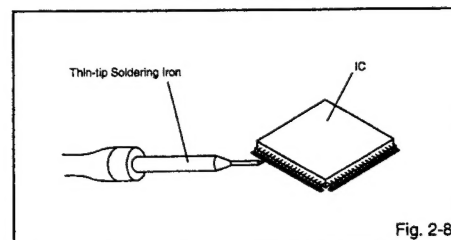

Fig. 2-8
4. When bridge-soldering between terminals and/or the soldering amount are not enough, resolder using a Thin-tip Soldering Iron. (Refer to Fig. 2-8.)